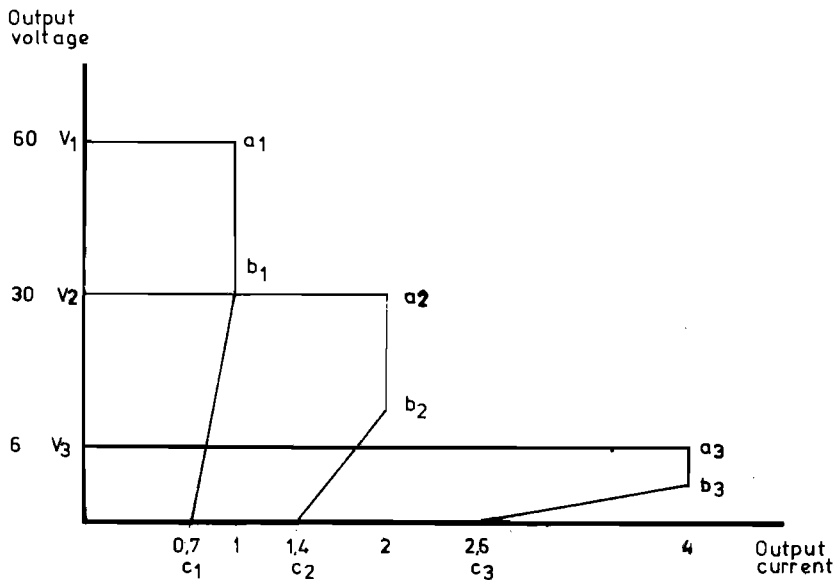

Figure 1. Voltage-current characteristic.
Set "Current limit" control (pos. 9) at a value well above the expected peak current, but below the value which could damage the load. Read output current from the ammeter (pos. 2). The characteristics of the current limit are shown in figure 1.
The current limit function is the following: If the load is increased above the value giving maximum output current (upper knee current), both output voltage and output current will decrease. This means that if the instrument is adjusted for 60V in the upper range, it maintains a constant voltage as long as the output current is less than 1 A. If the load resistance decreases from its value down to zero ohms, the voltage decreases naturally to zero and the output current decreases to 0,7 A (upper short circuit current). Figure 1 also shows that, when the power supply is adjusted to 30 V in the middle range, it has an upper knee current of 2 A.